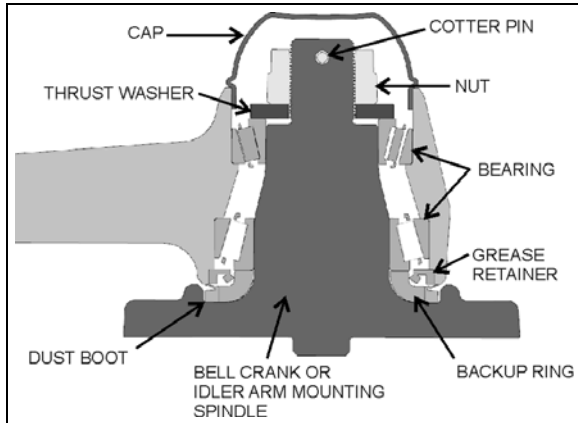

FIGURE 17: BELL CRANK OR IDLER ARM HUB
2. Remove the cap (Fig.17).
3. Remove the cotter pin, nut and tongue washer. Remove bearings, grease seal, bearing bushing and the bell crank or idler arm from its mounting spindle (Fig. 17).